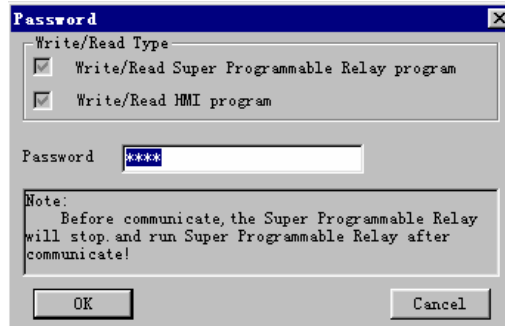

Fig 4.23 Confirm Password
“”in toolbar, dialog box shown as fig 4.23 appears, input your password (attn: the original password is 2002).
- a. Click option “Super Programmable Relay->PC” under menu “Controller” with left button of mouse, or click “”under toolbar, dialog box like fig 4.23 appears, input your password (Attn: the original password is 2002)